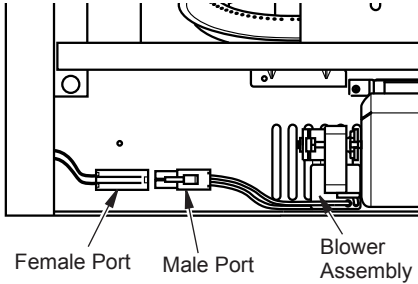

Figure 14 - Attaching Blower to Power Cord
4. Insert the male port from the blower assembly into the corresponding female port from the power cord, (see Figure 14).